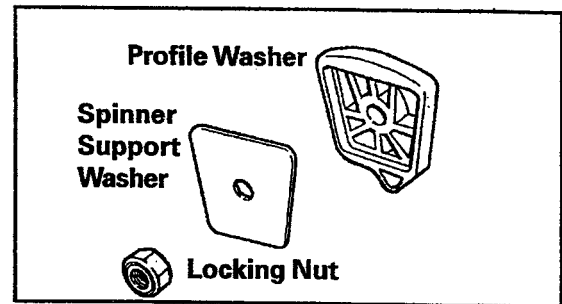

Figure 2-45
4. Remove the three locking type nuts ($\frac{1}{2}$ " socket) securing the spin basket to the spider assembly (*Figure 2-45*).